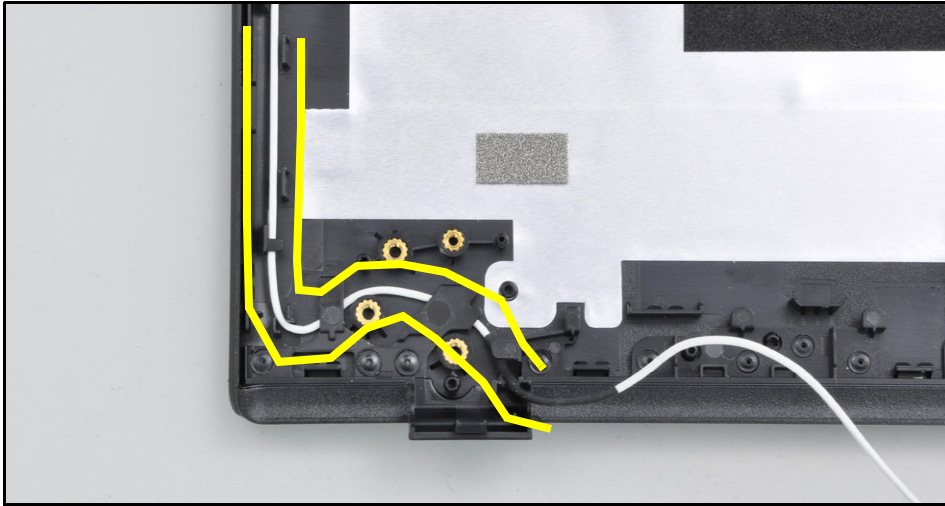

Figure 3-72. Replacing the WLAN Antenna
4. Route and secure the AUX antenna carefully to the indicated portion of cable guides on the bottom left portion of the LCD cover (Figure 3-72).